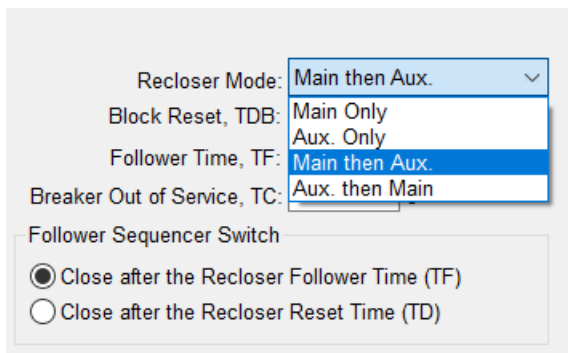

Figure 6 – Recloser Mode selection
Reclosing in multi-breaker arrangements such as ring bus and breaker-and-a-half applications requires special attention. Since two breakers (Main and Auxiliary) are available, it is necessary to select the appropriate 'Recloser Mode'. Four reclosing modes are possible, as shown in Figure 6. A Lead/Follower logic is often used in multi-breaker arrangements. Either of the Main or Auxiliary breakers can be assigned as the Lead breaker. For example, if the recloser mode is set to 'Main then Aux.', the Lead (Main breaker) will be the first to reclose after the recloser dead time, with the Follower (Auxiliary breaker) reclosing after the Recloser Follower Time (TF) or Recloser Reset Time (TD). Sufficient time (TF or TD) must be allowed to enable the Lead breaker to reclose successfully before the Follower breaker recloses.